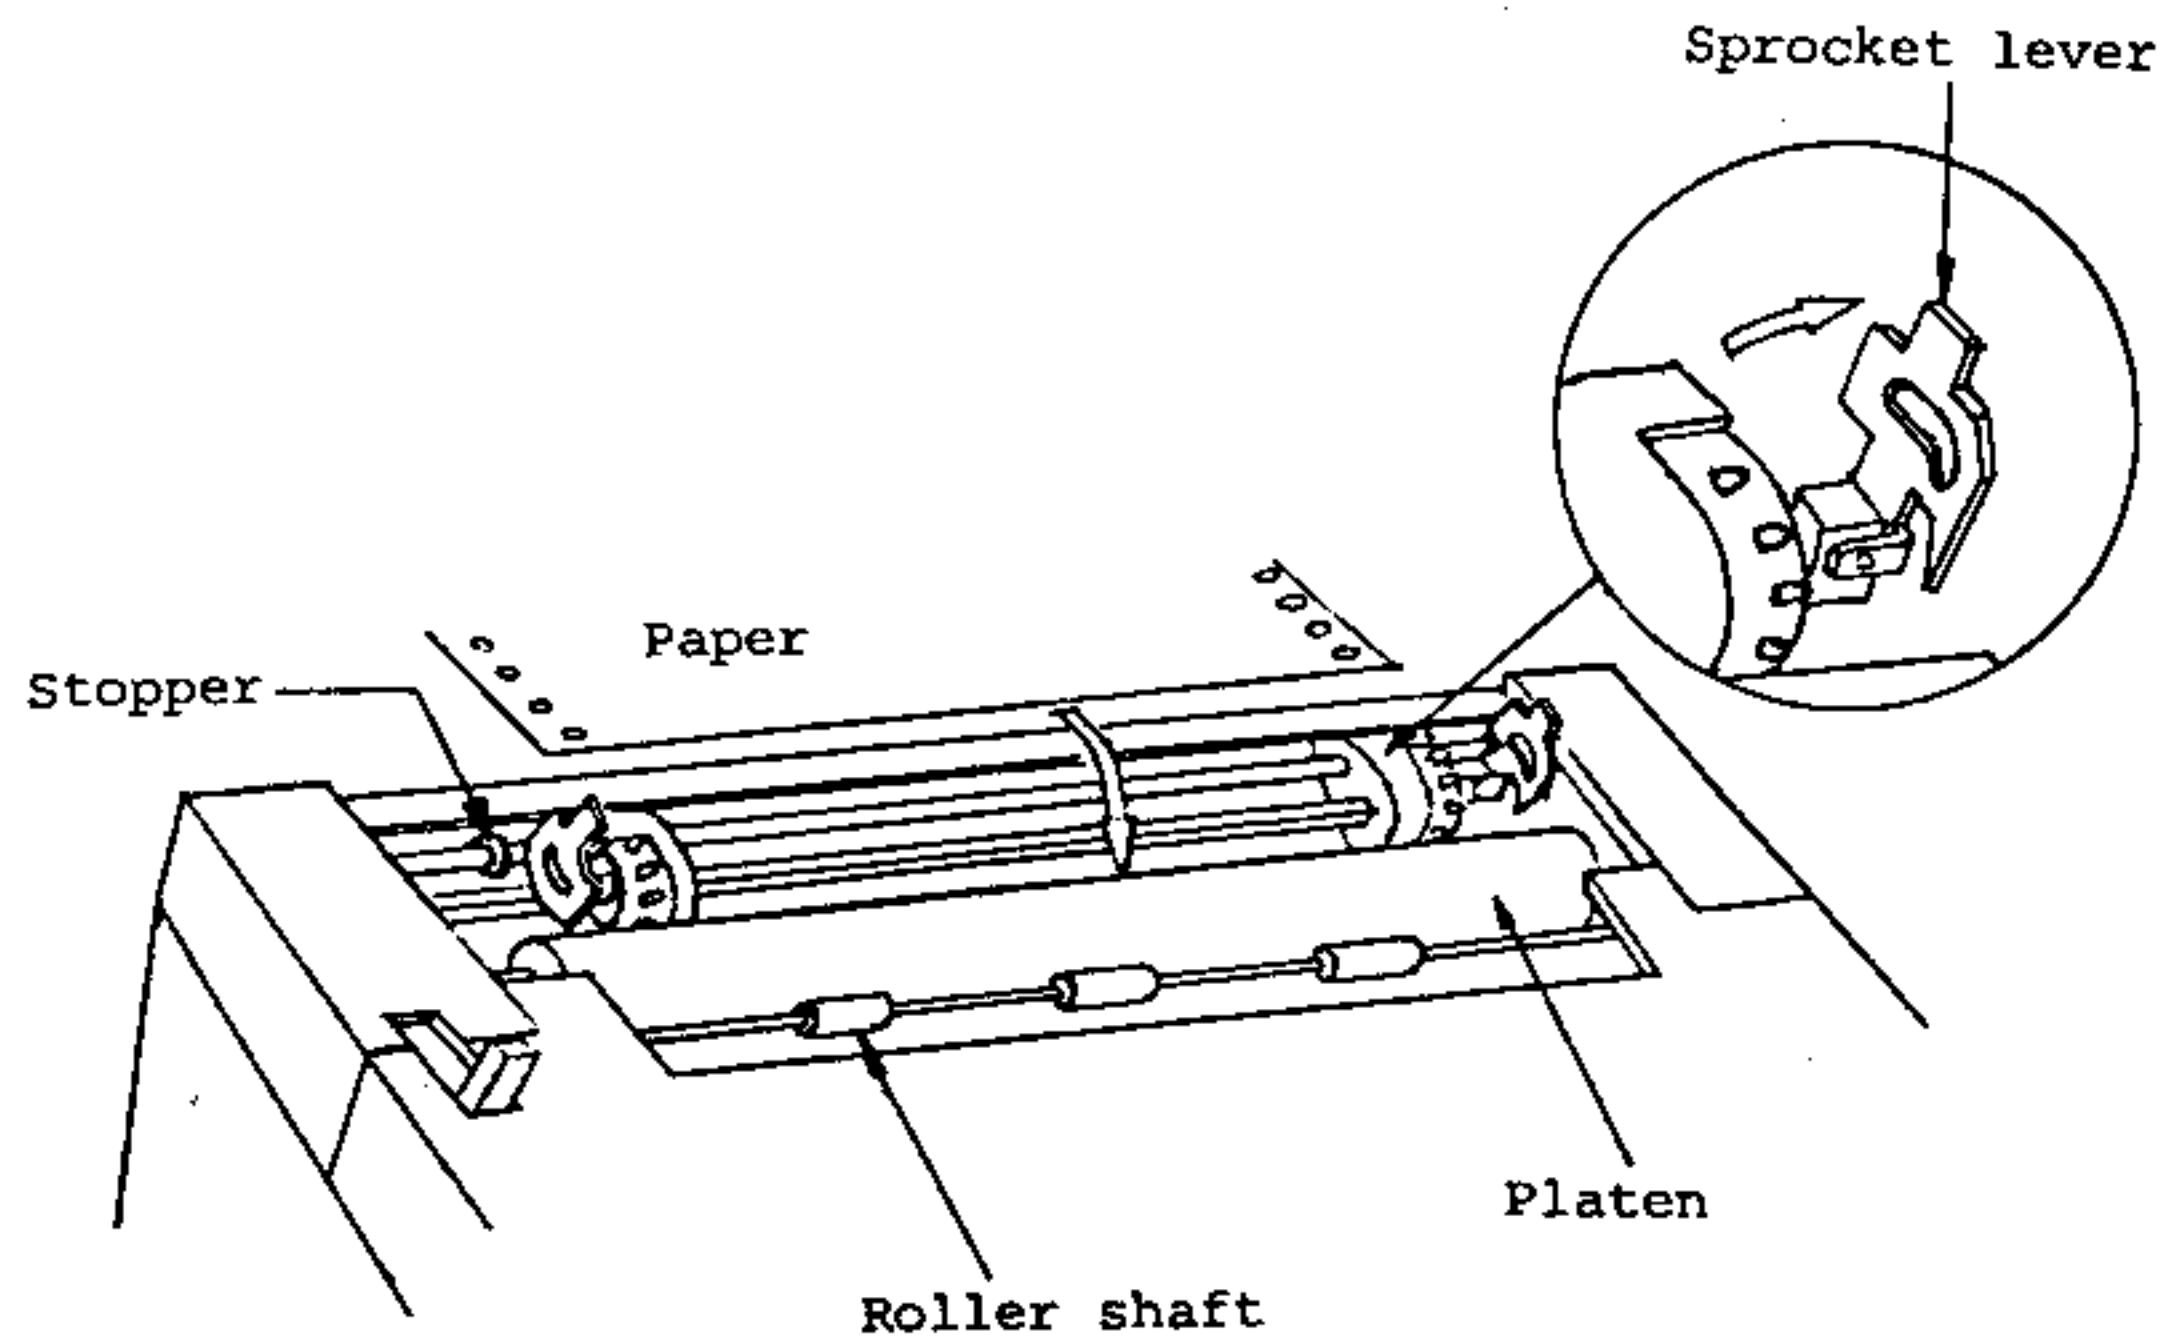

Fig. 10 Paper Insertion (1)
- (a) Next, lift up the paper clamps attached to the right and left sprocket tractors (refer to Fig. 10).